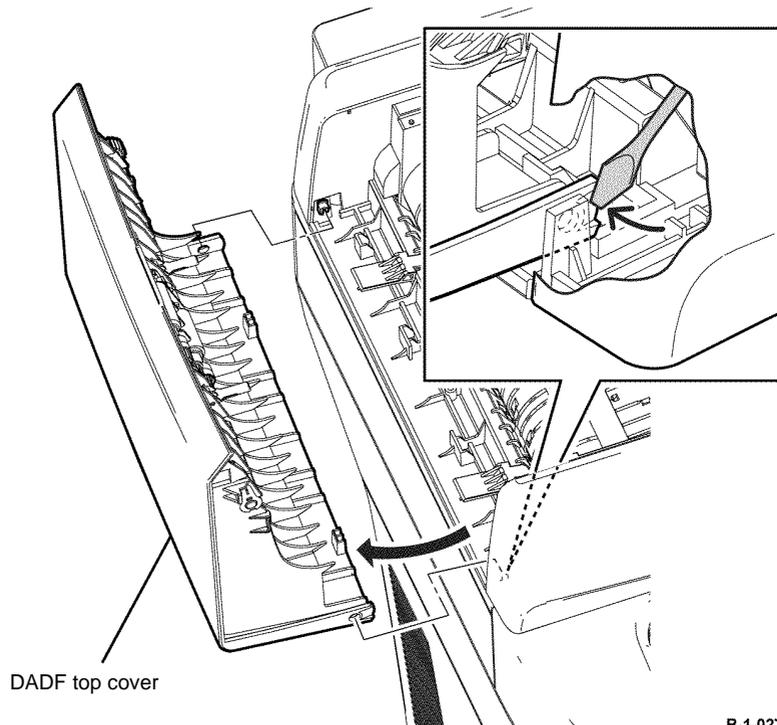

Figure 1 DADF top cover removal
2. Release the cover from the front stud, then remove the DADF top cover, Figure 1.